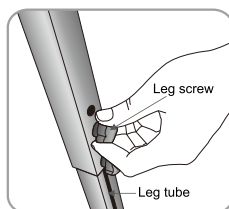

Figure 18
- Unfasten the locknut on legs and pull out the tubes and leave some hole for M8 x 90 mm locknut and fasten it (Figure 18 - 20).